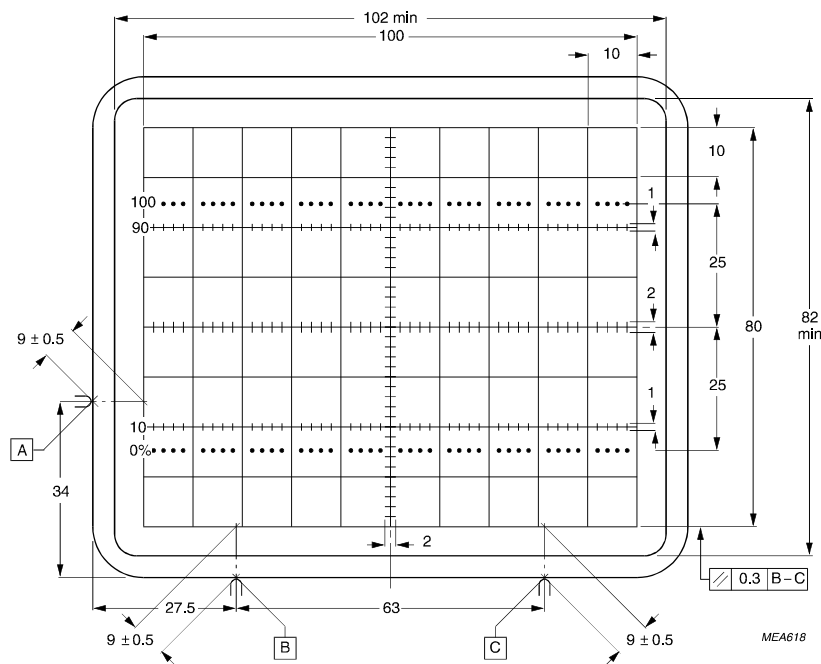

Fig.4. Front view of tube with internal graticule, type 123.
Internal graticule	type 123 (see Fig.4)
The tube can be mounted in any position. It must not be supported by the socket and not by the base region alone. The reference points on adjoining edges of the faceplate (see Fig.4) enable the tube to be positioned accurately in the front panel, for optimum alignment of the internal graticule.
- (1) Dimensions of faceplate only. The complete assembly of faceplate and cone (frit seal included) will pass through an opening of 122 mm x 102 mm (diagonal 153 mm).
- (2) The coil is fixed to the envelope with resin and adhesive tape.
- (3) The length of the rotation coil connecting leads is minimum 350 mm.
- (4) Reference points on faceplate for graticule alignment (see Fig.4)
- (5) The centre of the final accelerator contact is situated within a square of 10 mm x 10 mm around the indicated position.
1. Because the frit seal is visible through the faceplate, and is not necessarily aligned with the internal graticule, application of an external mask, or bezel, with an open area of max. 102 mm x 82 mm is recommended. The internal graticule is aligned with the faceplate by using the faceplate reference points (see Fig.4).